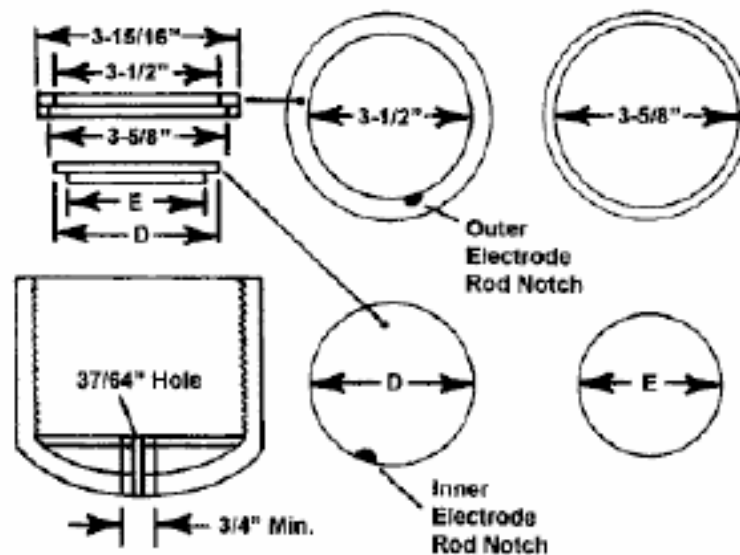

Figure 11: Threaded End Cap Details
Refer to the following Figure 11 for details related to installing the rings into the threaded end cap. Apply primer only to the flat surface of the threaded end cap contacted by the smaller ring. Do not remove the tape until instructed to do so.
The procedure of step 36 centers the disks completed in step 26 within the threaded end cap. Be sure the wrapping tape does not protrude below the surface of the small disk at any point. Do not overlap tape ends if more tape is added; simply butt the tape ends before continuing to wrap. Refer to Figure 11 for details related to installing the disks into the threaded end cap.
Be sure to align the disks with their notch offset at least  $\frac{3}{4}$ " from the ring notch, as shown in Figure 11.
37. Apply primer to the flat surface of the small disk and the flat inside surface of the threaded end cap. Apply an even layer of cement to the primed surfaces and install the disk assembly into the end cap. Align the disks with their notch offset at least  $\frac{3}{4}$ " from the ring notch, as shown in Figure 11. Using a large C-clamp, lightly clamp the disks and end cap. Allow the parts to air dry at least 8 hours before going to step 38.
39. Drill a  $\frac{37}{64}$ " hole through the center of the threaded end cap as shown in Figure 11.
Using a #41 bit, drill two holes through the bottom of the threaded end cap at the locations shown in Figure 11.
3. Use scrap pieces of 1/8" thick CPVC sheet as shims between the tops of the electrodes and the brackets. Apply primer, and then cement, to the brackets and the inside wall of the housing at 120 degree intervals as shown in Figure 11. Attach the brackets and allow cement to air dry for at least 30 minutes before going to step 4.